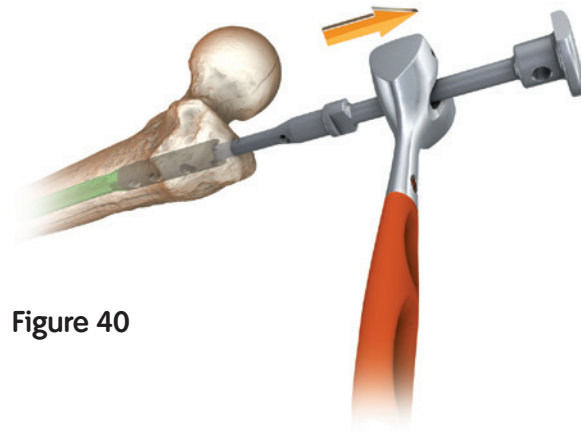

Figure 40
5. Extract the nail with a back-slapping motion using the Slotted Hammer (Figure 40).